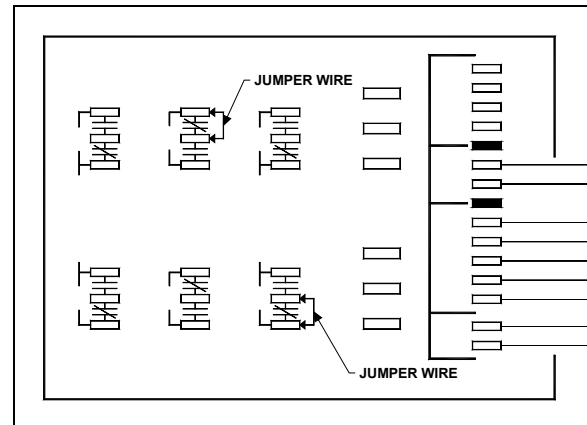

FIGURE 20: HVAC LOGIC PANEL
3. Open the rear electrical compartment. Locate the **cooling contact 3** on the HVAC logic panel. Install a jumper wire between the central terminal of this stage and its normally-closer contact terminal as illustrated in Fig. 20. Locate the **cooling contact 2**. Install a jumper wire between the central terminal of this stage and its normally-closed contact terminal as illustrated in Fig. 20.